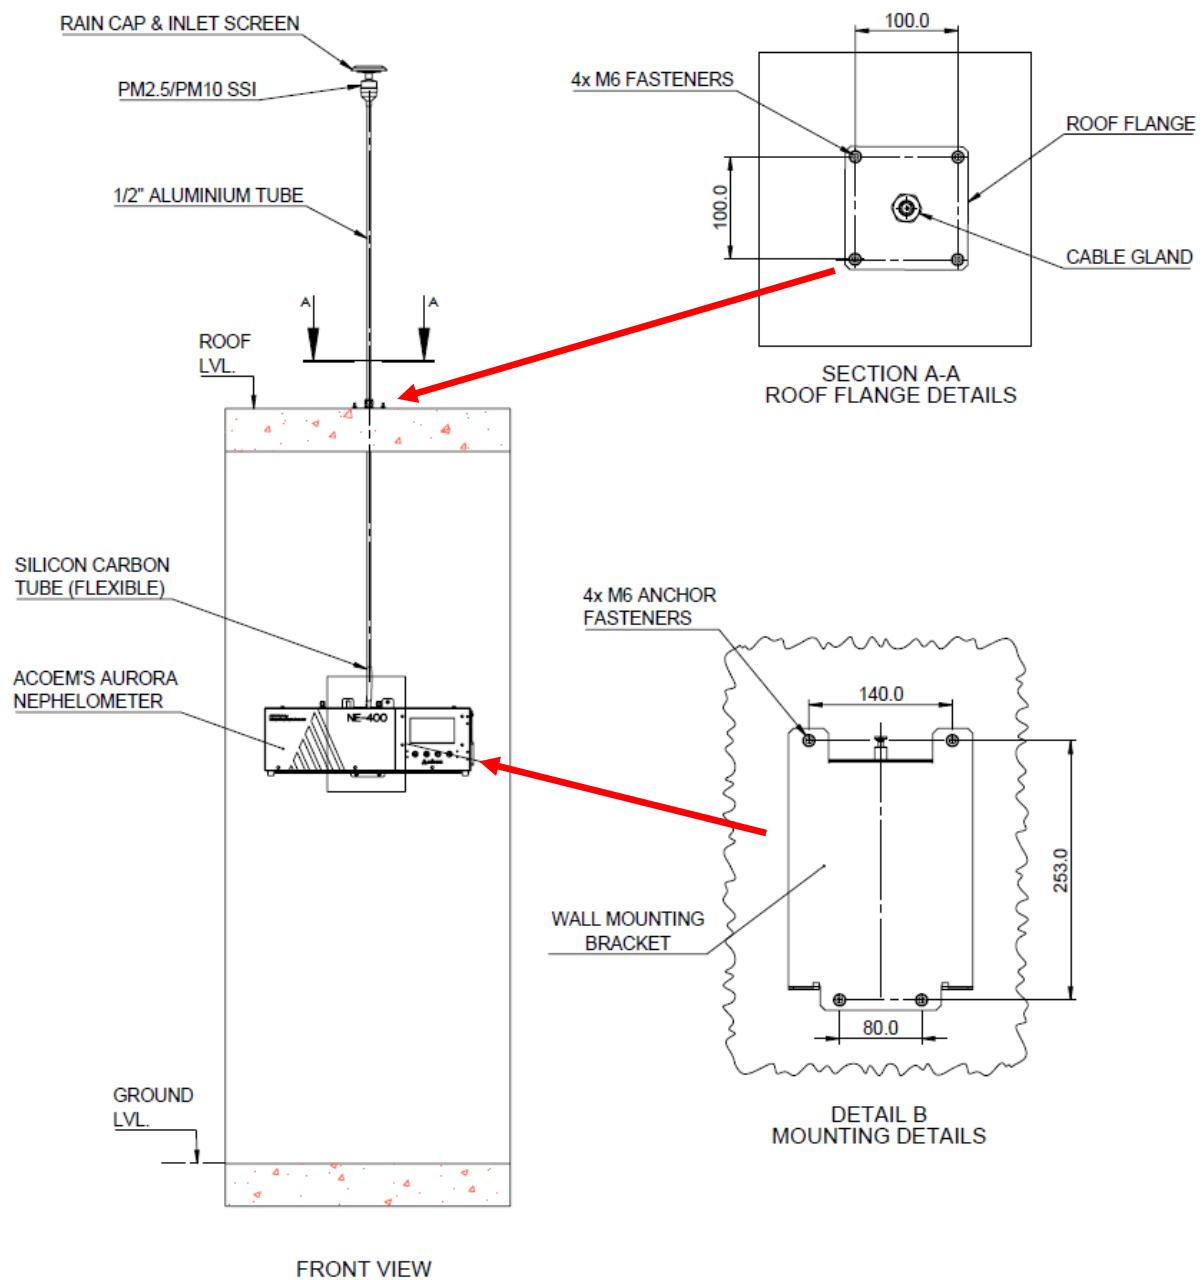
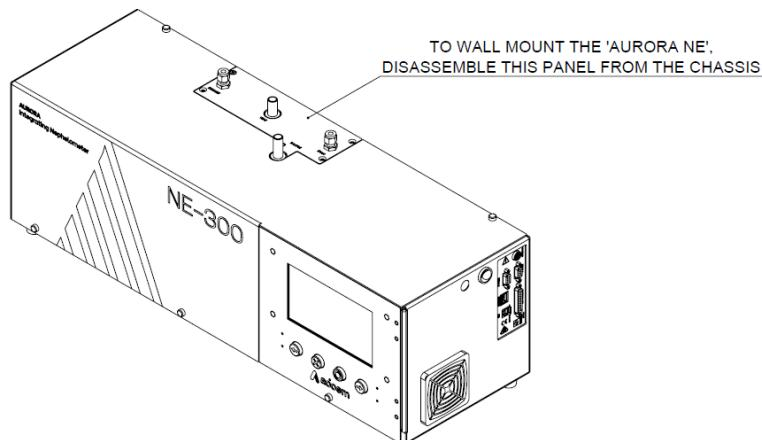

Figure 36 – Sample inlet Installation
Figure 37 – Wall Mount Bracket Installation Step 1
The sample inlet is the most important connection to the Aurora NE series nephelometer. Every installation is different. Figure 36 shows the ideal situation where the sample inlet is kept straight so that there are no changes in direction of the particulate sample. This is an example only that includes the wall mounting bracket, rain cap and insect screen, PM 2.5 size selective inlet, 2-meter aluminium tubing, roof flange and silicone tubing. Other variations may include longer flexible silicon tubing to offset the connection to the nephelometer. Not all installations will use the PM2.5 size selective inlet. Some installations will require the connection to a common sample inlet manifold that is connected to other instruments used for aerosol monitoring.
For the user-installed version (E010113), the anti-rotation panel will need to be changed. Proceed to step 1 in Figure 37 – Wall Mount Bracket Installation Step 1Figure 36.
Step 1: Remove the four M5 CSC screws in the top of the anti-rotation panel and remove the panel. See Figure 36.